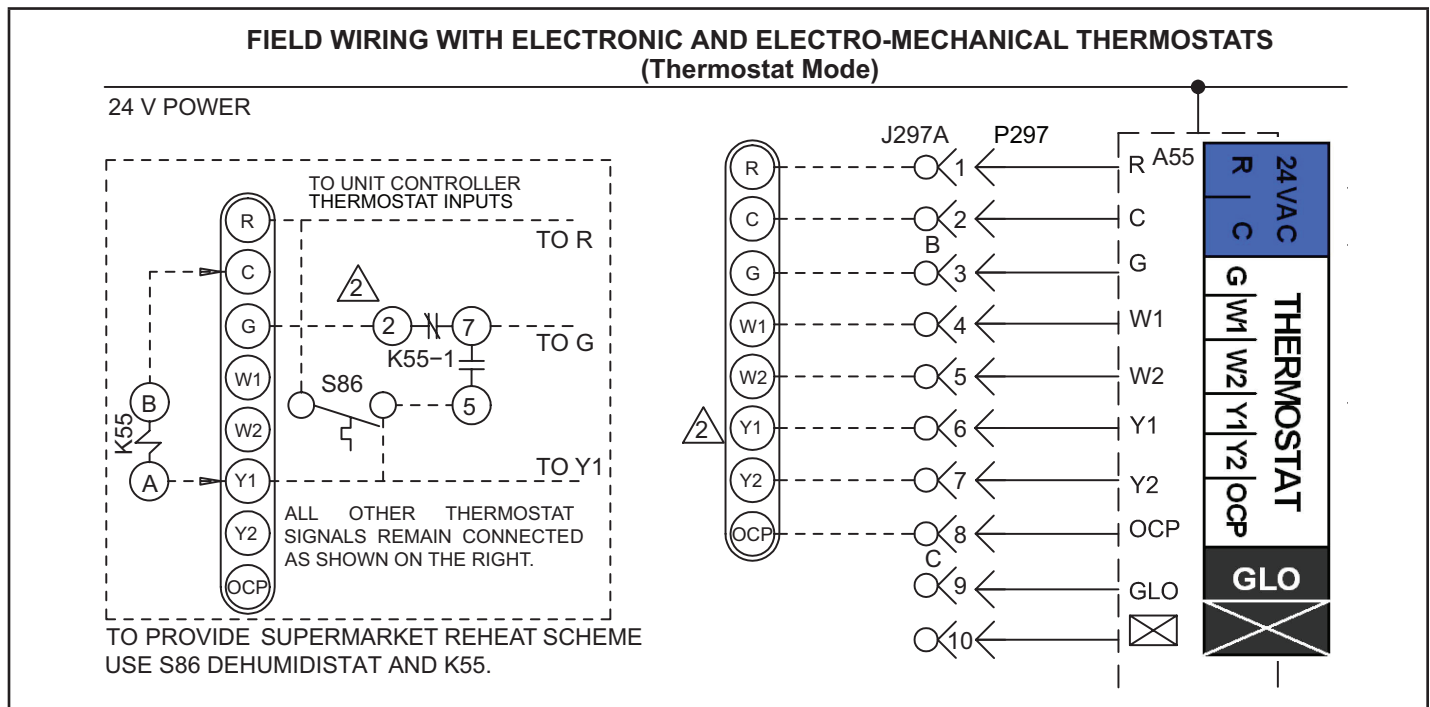
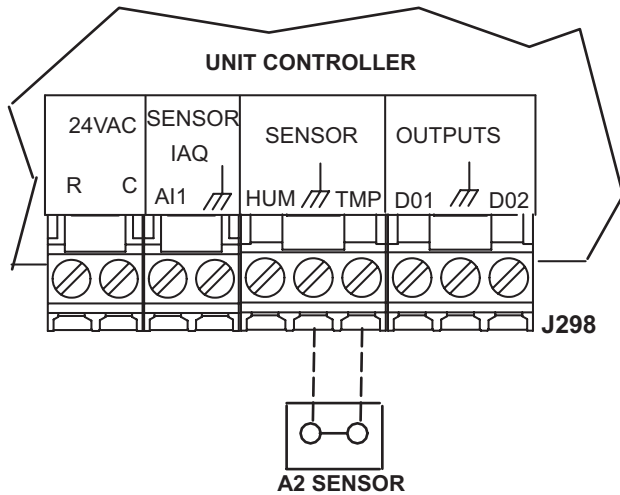
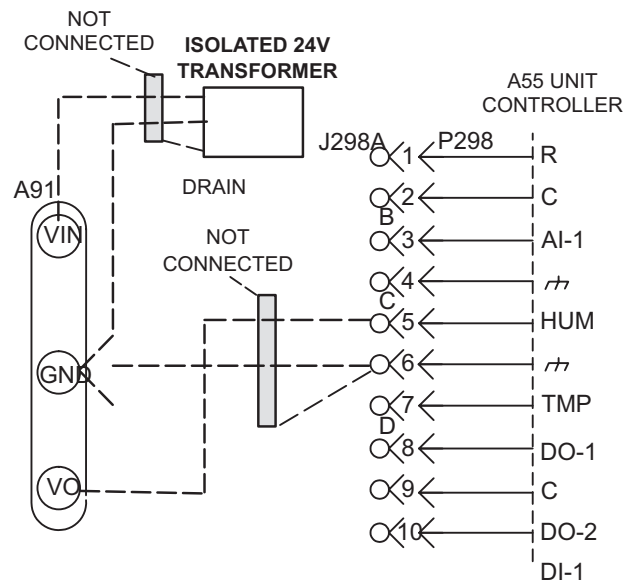

FIGURE 16
FIGURE 17
FIGURE 20
- 4 - Wire as shown in FIGURE 16 for electro-mechanical and electronic thermostats. If using other temperature control devices or energy management systems see instructions and wiring diagram provided by manufacturer.
The Unit Controller will operate heating and cooling based on the Unit Controller internal setpoints and the temperature from the A2 zone sensor. An optional Network Control Panel (NCP) can also be used to provide setpoints. A thermostat or return air sensor can be used as a back-up mode. Make zone sensor wiring connections as shown in FIGURE 17.
- 2 - Make wiring connections as shown in FIGURE 16 for Thermostat Mode or FIGURE 17 for Zone Sensor Mode. In addition, connect either a humidity sensor or a dehumidification input. See FIGURE 18 or FIGURE 20 for humidity sensor wiring or FIGURE 19 for dehumidification input wiring.
Use a local, isolated 24VAC transformer such as Lennox cat #18M13 (20VA minimum) to supply power to RH sensor as shown in FIGURE 20. Use two shielded cables containing 20AWG minimum, twisted pair conductors with overall shield. Belden type 8762 or 88760 (plenum) or equivalent.
- 2 - Press and hold the pair button for five seconds. See figure 20.